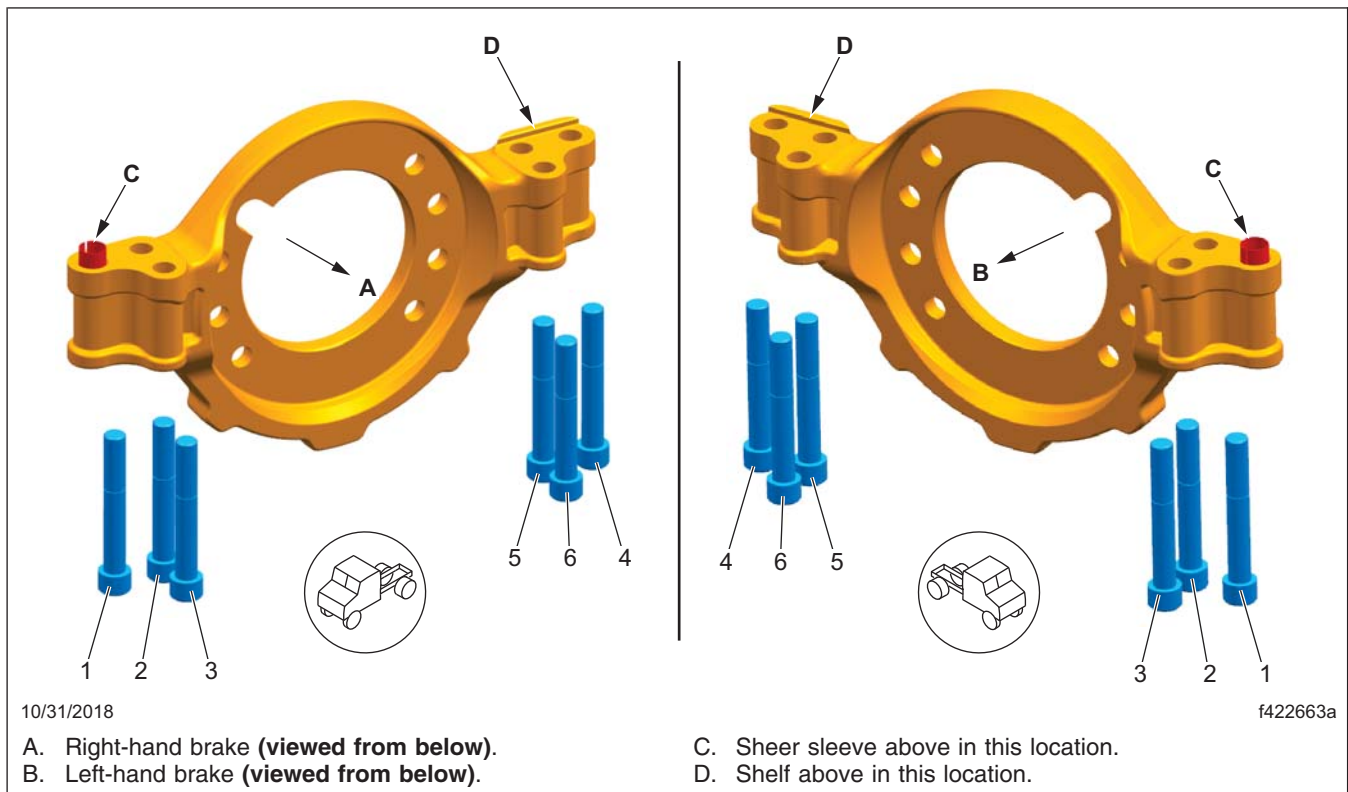

Fig. 5, Tightening Pattern (viewed from below), Bendix Radial Mounted Caliper
10. Tighten the carrier mounting bolts in two steps, using the pattern shown in **Fig. 5**.